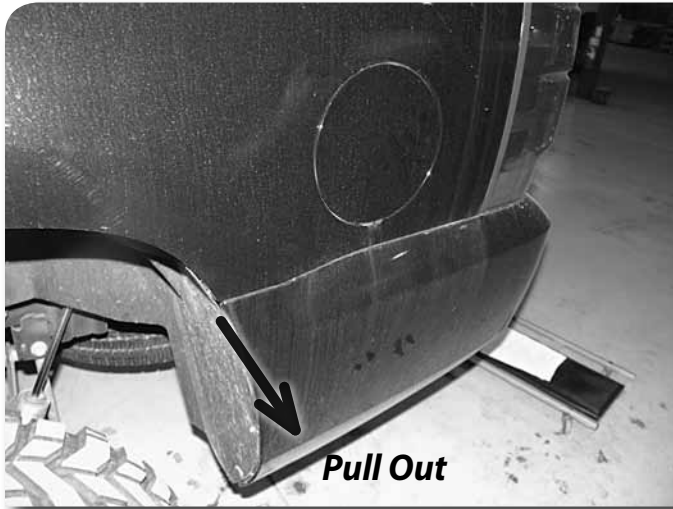

Figure 12
21. Pull sides of bumpers out (Same as front). The side clips are located where the bumper seam meets the body edge **Figure 12**.